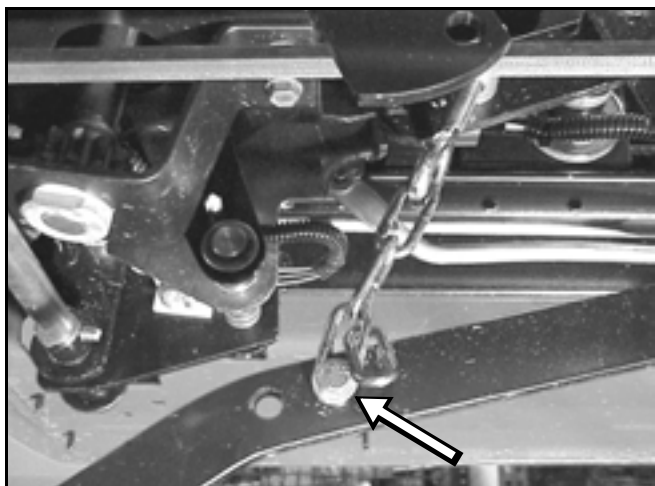

Figure 55
1. Remove the bolt, washer, and nut retaining the lift chain to the lift bar (Figure 55).